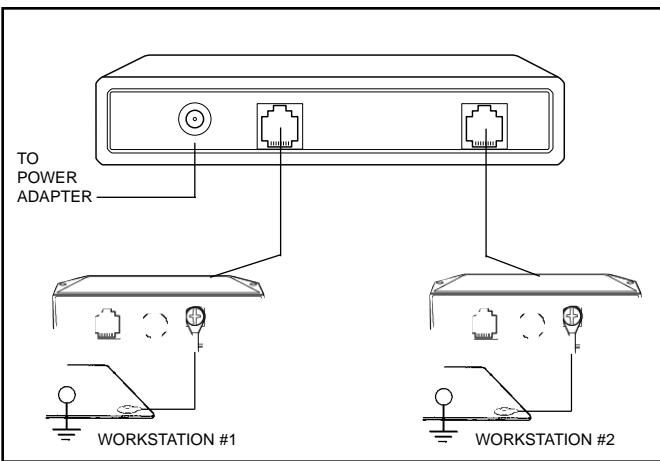

Figure 4. Wiring connection instructions for the 50510/50511 monitor control unit.
unit is a supervisor ground connection jack where a supervisor, guest, or equipment can be grounded. Figure 4 shows the monitor control unit as it is viewed from the rear, with the work surface wiring in place.
1. Use rear phone jack connections and connect Satellite Remote Units to base unit with phone cable. See Figure 4 for wiring connection instructions.
4. Confirm that worksurface surface resistance is 5×10^8 ohms or less. Connect the stripped end of the worksurface cord included with the unit to the terminal marked "Work Surface" on the back of the unit. Snap the other end to the worksurface grounding point as shown in figures 4 and 5.